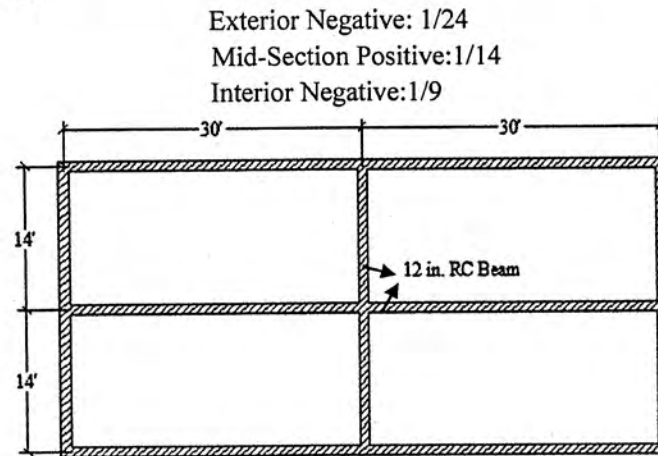

Figure 4: Plan View
7. (a) A reinforced concrete slab system shown in **Figure 4** is built integrally with its support and consists of two equal spans. The service live load on the slab is 120 psf. Design the slab by USD method and draw neat sketches of slab section showing all the reinforcement details. Given, $f'_c = 3$ ksi and $f_y = 60$ ksi. ACI moment coefficients are given as follows: (7)